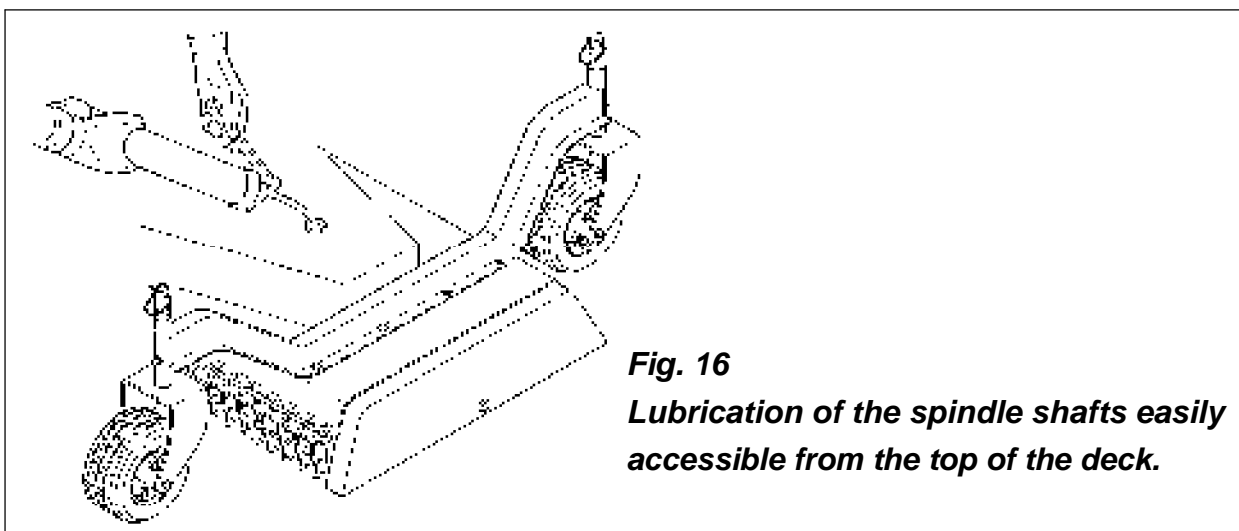

Fig. 16
1. lubricate the nine spindles with two or three shots of multipurpose grease (**see fig. 16**). The top grease fittings are easily accessible from the top of the deck by simply removing the plastic dust guards.